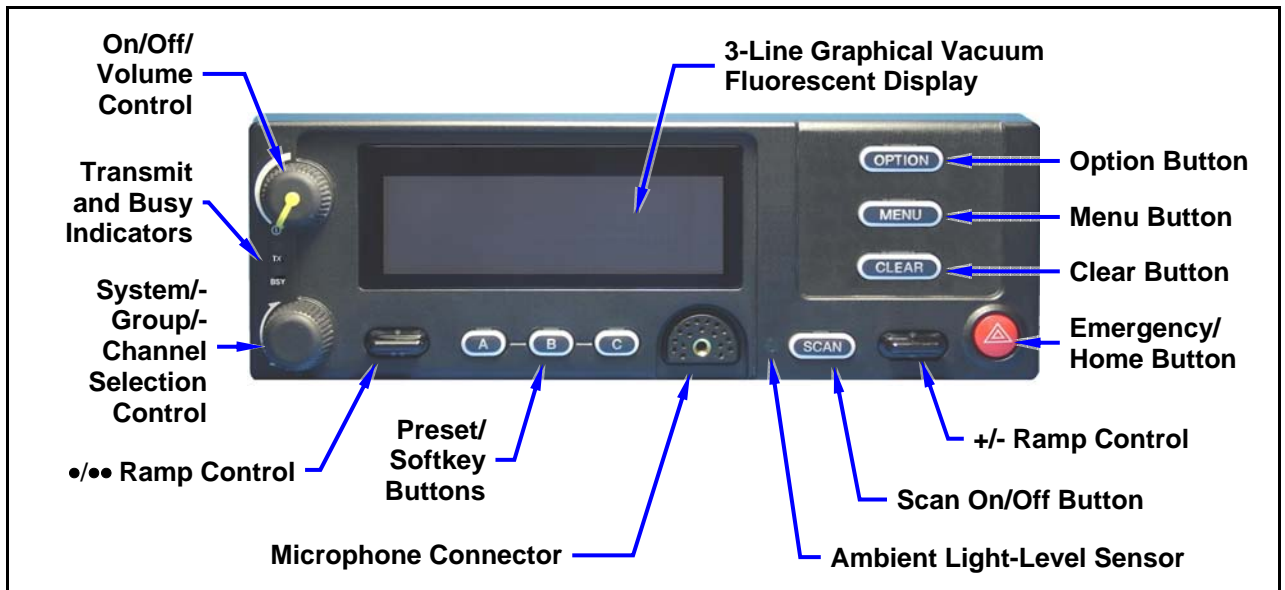
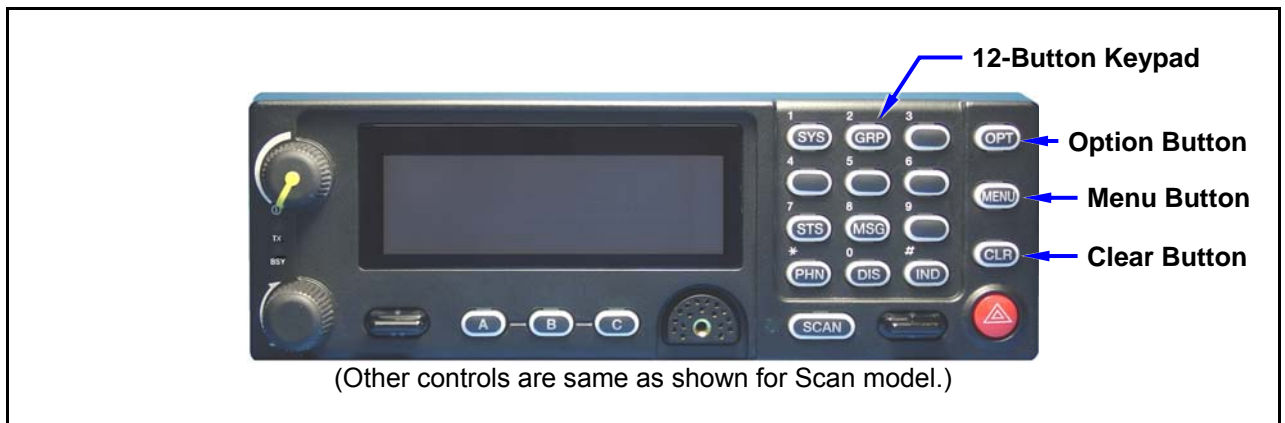

Figure 8-5: CH-721 Scan Model Control Head Front Panel
Figure 8-6: CH-721 System Model Control Head Front Panel
The remote-mount M7300 mobile radio must be connected to a control head to provide the operator-to-radio interface. Two different control heads are available — the CH-721 Scan model and the CH-721 System model. See Figure 8-5 and Figure 8-6 respectively. The CH-721 Scan model control head features three (3) large menu selection buttons. The System model control head has a 12-button keypad to allow advanced operations without the need of a DTMF-capable microphone.